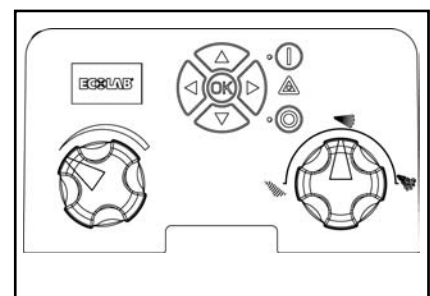

Fig. 14
The main station is now ready for operation. Press "I" on the control panel. (see fig. 14)
2. Press "I" on the control panel to start.(see fig.14)